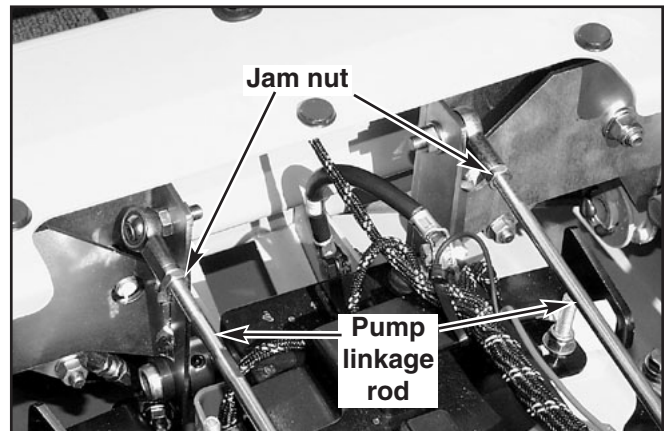

Figure 11-20
Fine adjustment to the unit's steering is made with the adjustable pump linkage rods located between the control lever and pump arms. Fig. 11-20
4. If wheel(s) are rotating forward, loosen the jam nuts on the pump linkage rods and rotate the rod to lengthen the steering control linkage until the wheel(s) come to a stop. Fig. 11-20
5. If wheel(s) are rotating in reverse then loosen the jam nuts on the pump linkage rods and rotate the rod to shorten the steering control linkage until the wheel(s) come to a stop. Fig. 11-20